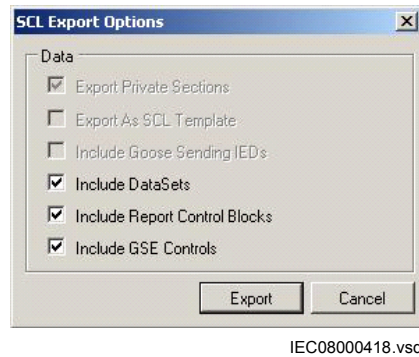

Figure 66: IEC 61850: Export IED file Options
4. Select *Export Private Sections*, *Export As SCL Template* or *Include Goose Sending IEDs* and click *Export*, see Figure 66. Note that the options in *SCL Export Options* window according to Figure 66 is only available when an ICD file is exported.